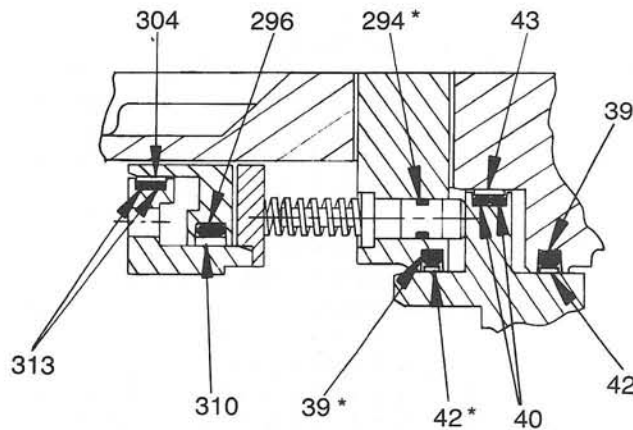

Figure 5
- b Press bearings (26) & (28) onto output shaft (1). Install locknut (34), use Loctite Cleaner No. 755 and Loctite No. 271 or equal. Install mating ring (4) and locknut (15), use Loctite Cleaner No. 755 and Loctite No. 271 or equal.
- c Insert output shaft assembly thru the output housing (9) from outside-in. Install bearing retainer (7), seal (31) and gasket (55).
- a Bearing (27) must seat against shoulders on both the clutch thrust plate (5) and the piston (3). Use Loctite Retaining Compound No. 620 or equal on I.D. and O.D. of bearing.
- b Use care not to cut or otherwise damage liners (42, 43, 304 and 310) when installing mating parts. Proper position of O-rings, liners and mating parts is shown in figure 5.
- c Place springs (36) into matching blind holes in piston housing (10).